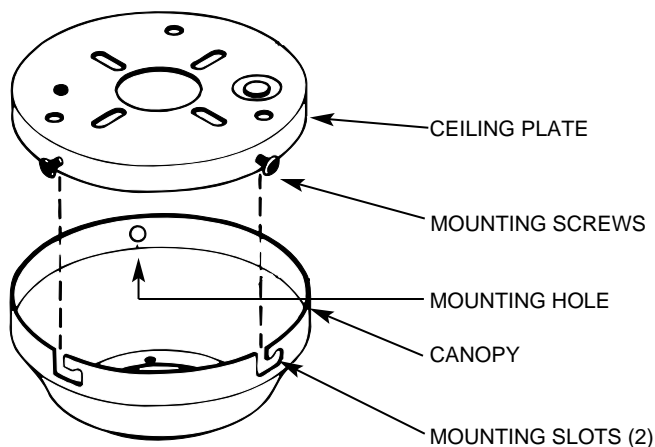

FIGURE 8
A. The ceiling plate has (3) mounting screw holes located on the side. Install (2) #10-32 x 1/2" Phillips round head screws halfway into two of these holes. See Figure 8.
Remove the fan from the ceiling plate hook. Make sure not to break any wire connections. The canopy has (2) mating slots and (1) mating hole. See Figure 8.